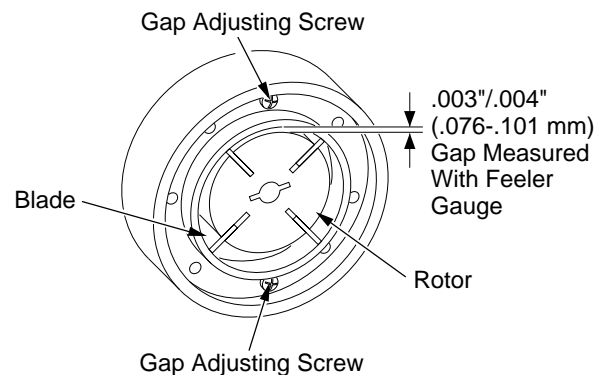

Figure 30 - Gap Adjusting Screw Locations
9. Check gap on rotor. Adjust to .076/.101 mm (.003"/.004") if needed (see Figure 30).